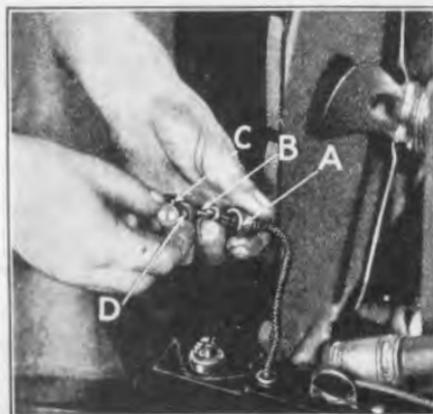

Fig. 113
- (b) Slip head lamp plug thimble (See "A" Fig. 113) over ends of headlamp wires. Insert headlamp wires "B" into headlamp plug "C". The wires are held in place by running down the two headlamp wire plug screws "D".